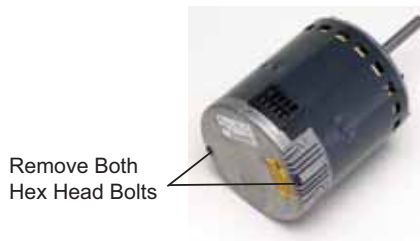

Figure 10.
- 4 - Remove the two hex head bolts securing the motor control module to the motor (**Figure 10**).
- 3 - Mount new motor control module to motor using two hex head bolts removed in **Figure 10**. Torque bolts to 22 inch pounds or 1/16th clock wise turn.